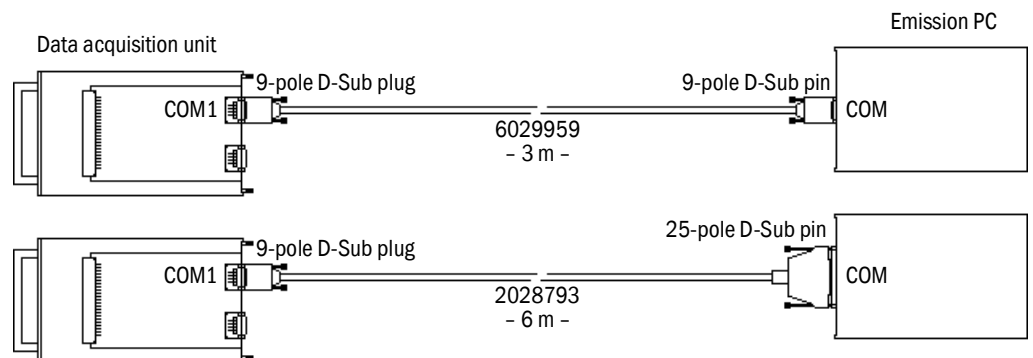

Fig. 2: RS232 connection variants
- Observe the maximum lengths of the connecting cables to the emission PC, see Fig. 2: "RS232 connection variants", page 13.
- RS232 (see Fig. 2: “RS232 connection variants”), max. 15 m